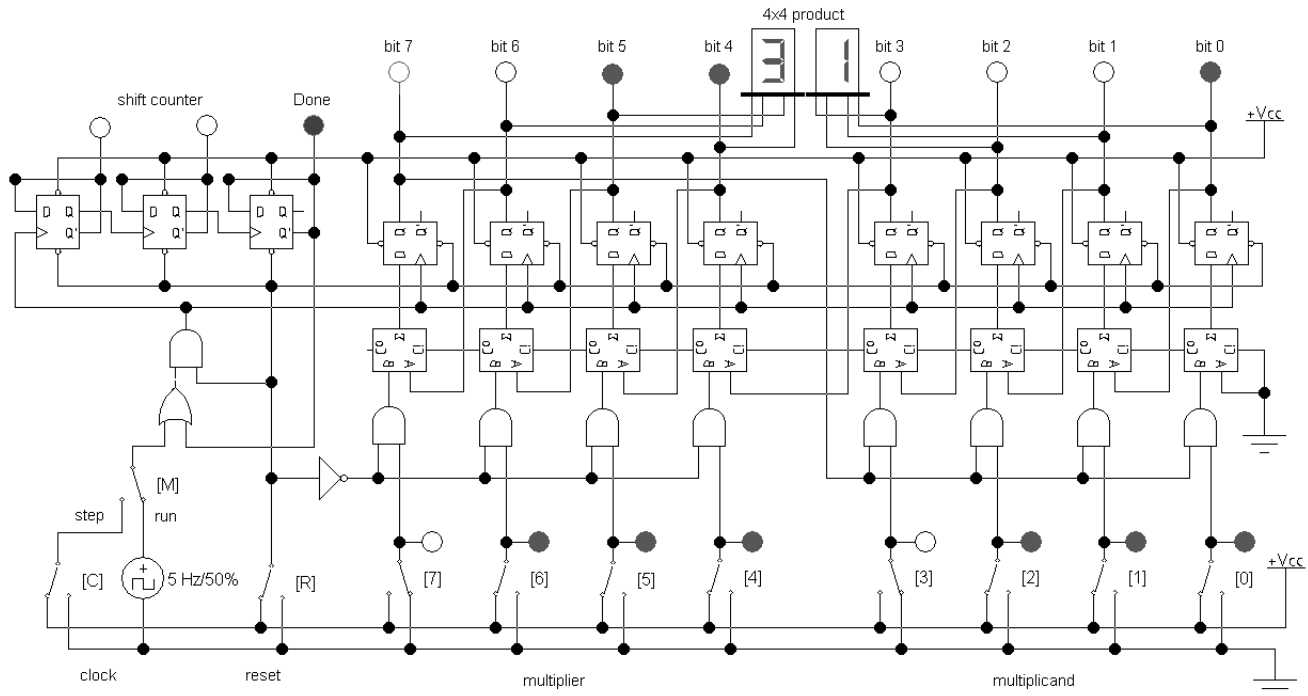

Figure 6.3: A 4x4 bit shift/add multiplier
Fig. 6.3 shows an implementation of a 4x4 multiplier that uses a shift/add algorithm. The circuit is quite complex and we need to spend some time understanding its operation.
- ❓ An alternate strategy would select the multiplier bit to test (is it =1 or =0) using a multiplexer driven by a down counter at its inputs. Sketch the relevant part of the circuit based on this idea. Compare this strategy to the one used in the circuit of Fig. 6.3.